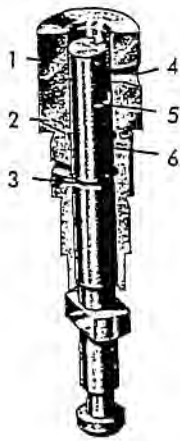

Fig. 07-10/9
The oil lock is formed by two circular grooves in each pump cylinder. The upper relief groove communicates with the suction chamber of the injection pump through the bore (2) (Fig. 07-10/9). The fuel leaking through between plunger and cylinder during the pressure stroke is reduced in pressure in this relief groove and flows back to the suction chamber through the bore. Oil from the engine lubrication circuit is forced into the groove (3) in the cylinder and the plunger under a pressure higher than the pressure of the fuel in the suction chamber of the injection pump. This oil blocks the way to the pump drive for any fuel that may have leaked through past the relief groove.